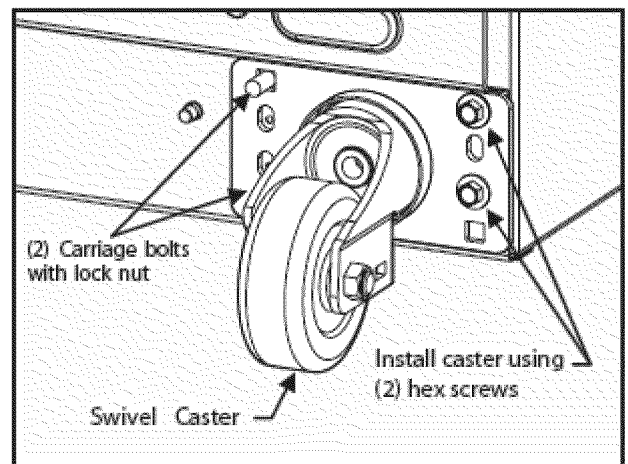

Figure 5
- On the opposite side of the swivel caster plate, insert two carriage bolts through the compressor support rail and swivel caster plate. Use a lock nut on each bolt and tighten securely using a 9/16" socket wrench. See Figure 5.